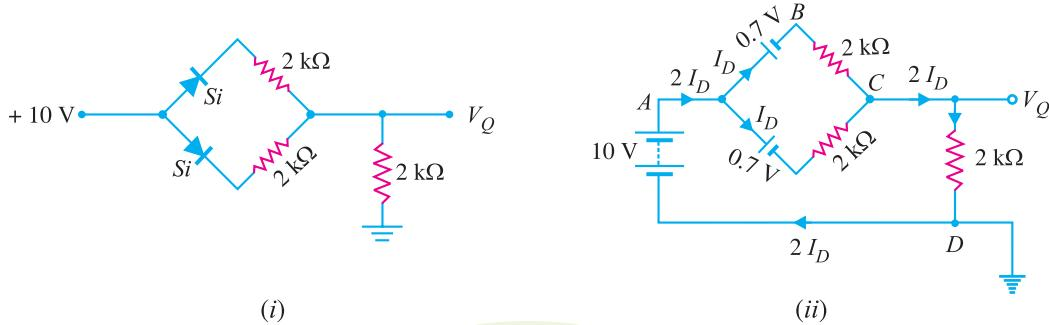

Fig. 6.14
**Example 6.7.** Find  $V_Q$  and  $I_D$  in the network shown in Fig. 6.14 (i). Use simplified model.
**Solution.** Replace the diodes by their simplified models. The resulting circuit will be as shown in Fig. 6.14 (ii). By symmetry, current in each branch is  $I_D$  so that current in branch CD is  $2I_D$ . Applying Kirchhoff's voltage law to the closed circuit ABCDA, we have,